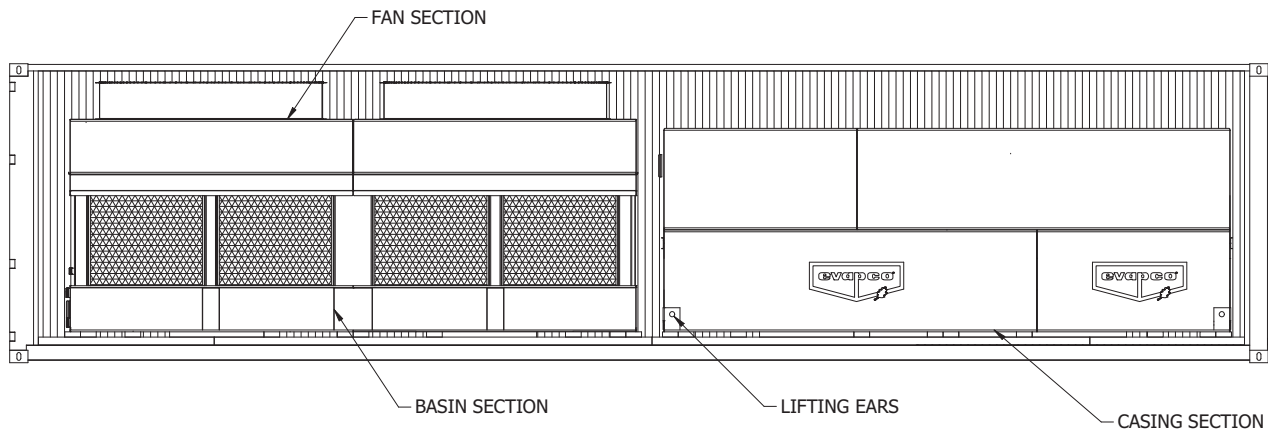

Figure 11 - 40' High Cube Container Shipment
*HC indicates "High Cube." High cube containers provide an additional foot of container height which allows for standard fan cylinders to ship mounted to the fan sections (See Figure 11 for an example of a high cube container).
Figure 11 below shows an example of a 7' x 18' unit shipping in a 40' high cube container. A high cube container is used so that the fan cylinders can ship mounted to the fan section. In such a case, the fan section is loosely bolted to the basin section.